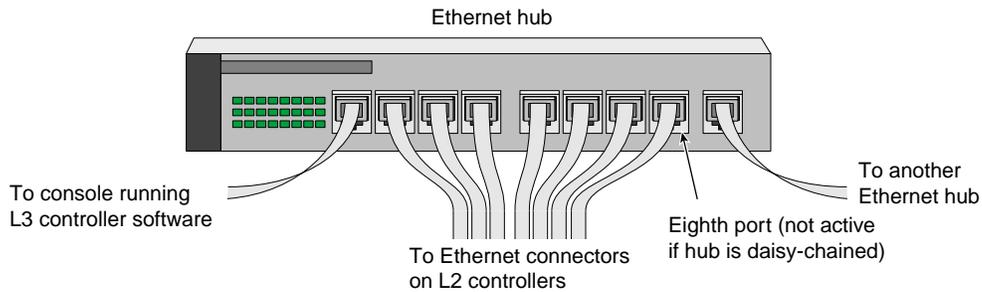

Figure 2-4 Connecting Console to an Ethernet Hub
- If you have a server with multiple L2 controllers, you can connect as a console a Silicon Graphics 230 Visual Workstation running L3 controller software on the Linux operating system to a connector on an Ethernet hub to which are connected the multiple L2 controllers from multiple racks, as shown in Figure 2-4.